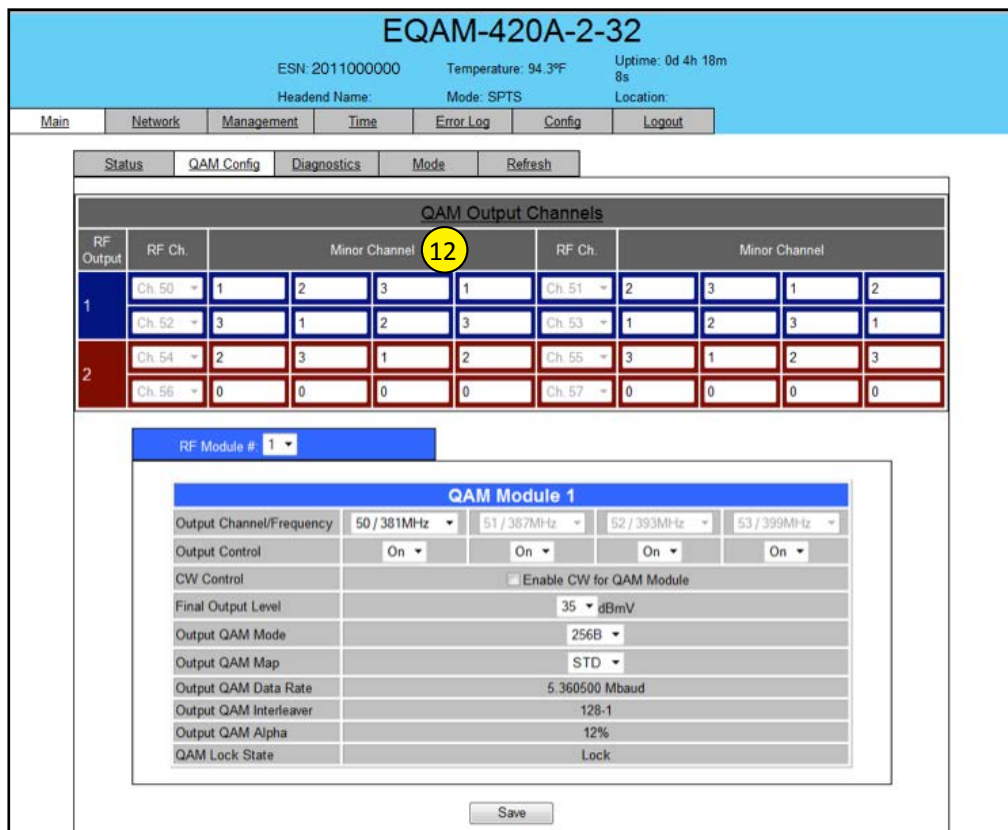

Figure 6.4.2 - "Main > QAM Config" Screen when operating in SPTS Mode
- 12 **Minor Channel:** must enter the minor channel number for the output program. The range is 1 to 99 for Terrestrial and 1 to 999 for Cable. The Minor Channel option will be visible only when the unit is operating in the SPTS Mode (see Figure 6.4.2 for details).